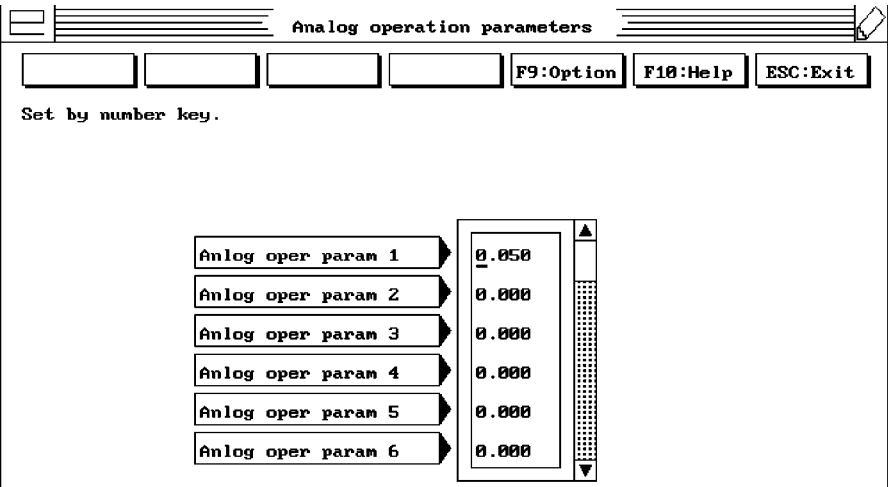

Figure 6
- 2. Click on the value across from Analog oper param 1 and enter 0.050. The table should look like Figure 6.